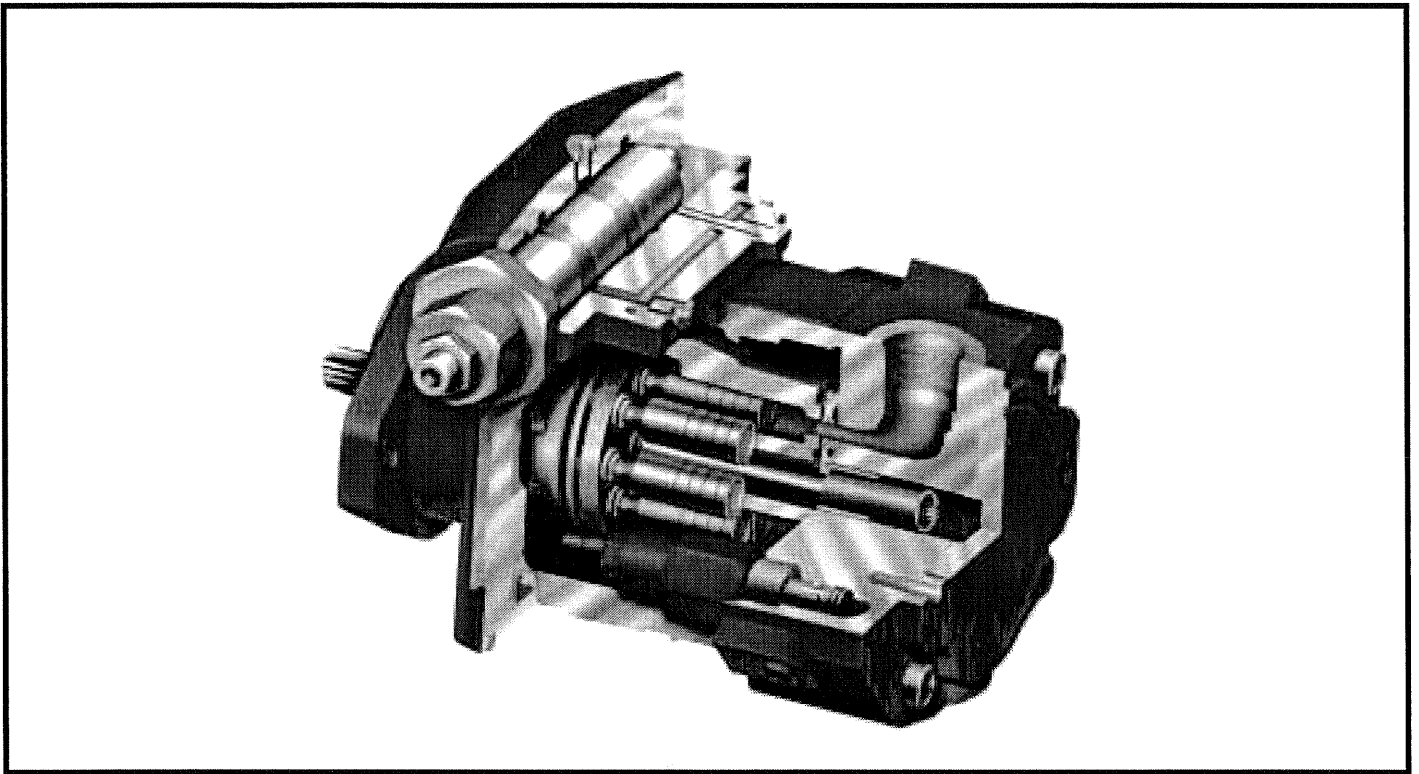

Figure 2. Cut-a-way (cross-section) of typical "PVM" Pump
Refer to Figures 2, 7 and 8. A driveshaft (21) runs through the centerline of pump housing (1) and valve plate (45) with pump cylinder barrel (38) splined to it. A bearing (26) supports the front of the driveshaft and a (bushing type) bearing (67) supports the rear of the driveshaft. The pump cylinder barrel is carried in a hydrodynamic (journal type) cylinder bearing (35). A port plate (43), containing crescent shaped ports, is located on a valve plate (45) that has matching crescent shaped ports. Pumping piston/shoe assemblies (39) in the cylinder barrel are held against a swashblock (29) by a shoe retainer plate (40). The shoe retainer is held in position by the fulcrum ball (41). The fulcrum ball is forced outward by a shoe retainer plate spring (42). The spring acts against the pump cylinder barrel forcing it against the port plate while also forcing the piston shoes against the swashblock. The semi-cylindrical shaped swashblock limits the piston stroke and can be swiveled in an arc shaped saddle-bearing (30). The swashblock is swiveled by a control piston (19).